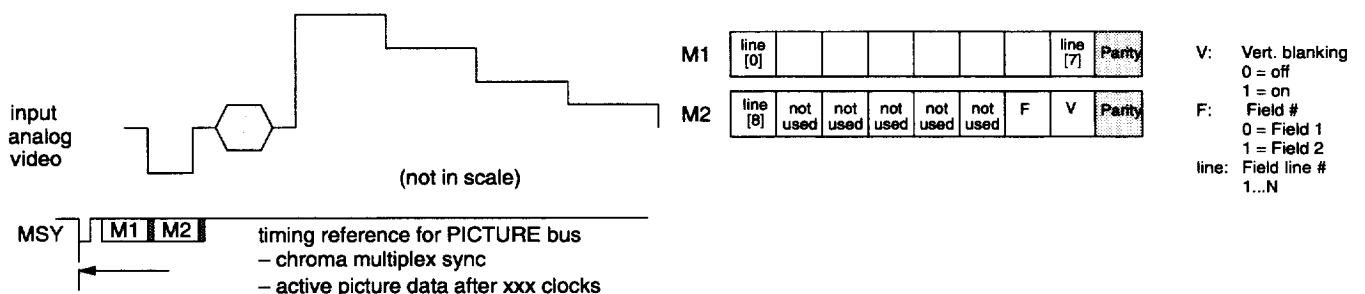

Fig. 2-28: Main sync format
- PLL2 generates the horizontal and vertical timing. Phase and frequency are synchronized by the front sync signal. The Main Sync (MSY) signal that is generated from PLL2 is a multiplex of all display related data (fig. 2-28). This signal is intended for use by other processors, e.g. a PIP processor can use this signal to adjust to a certain display position.